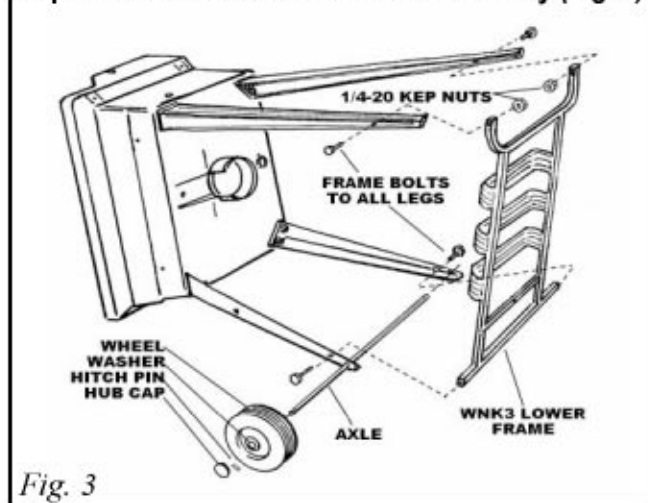

Fig. 3
1. Bolt shelf to the (4) legs as follow:
- (A) WCP and WCN (Fig. 3) carts uses (2) 1/4-20x 1-1/2" slotted bolts and Kep nuts to fasten the frame to the long legs and (2) 1/4-20x3/4" slotted head bolts to fasten the frame to the short legs.
Step 3: WCP3/WCN3 Lower Shelf Assembly (Fig. 3)